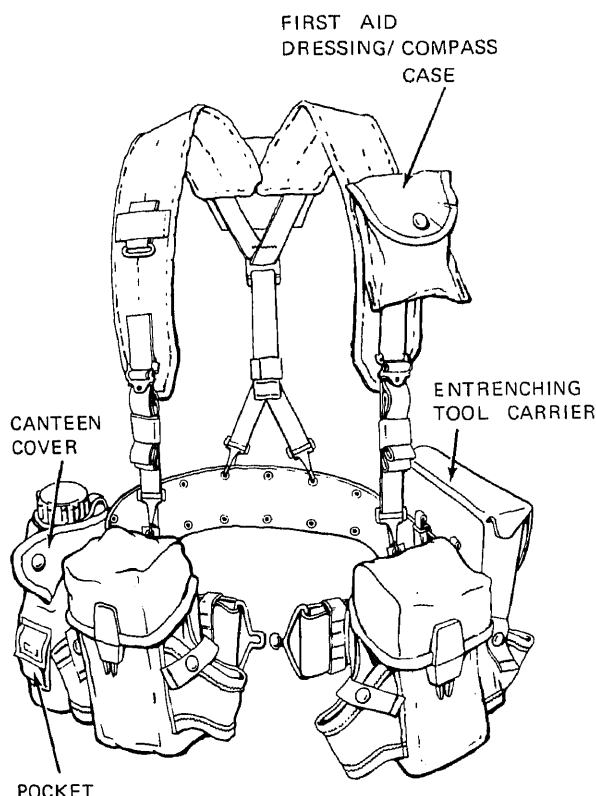

Figure 2-6.—Attaching entrenching tool carrier canteen
the carrier as close as possible to the ammunition pouch. (See fig. 2-6.)
1. Attach the cover onto the right side of the belt by means of the two slide keepers on the back. Attach it as close as possible to the ammunition pouch. (See fig. 2-6.)
This case can be attached by means of the two slide keepers on the back of the case in either of the following positions. (See fig. 2-6.)